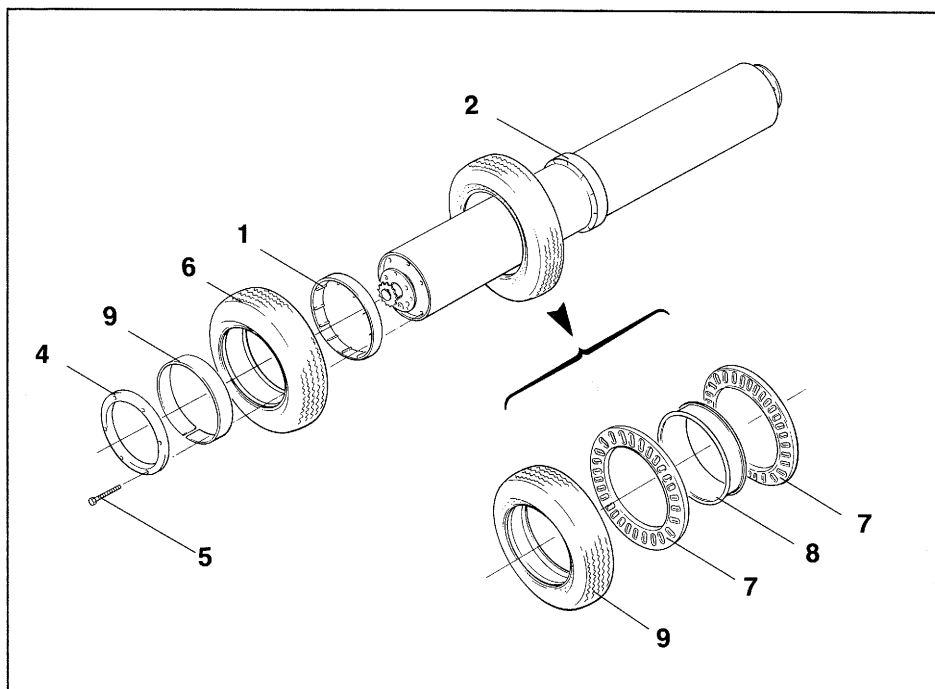
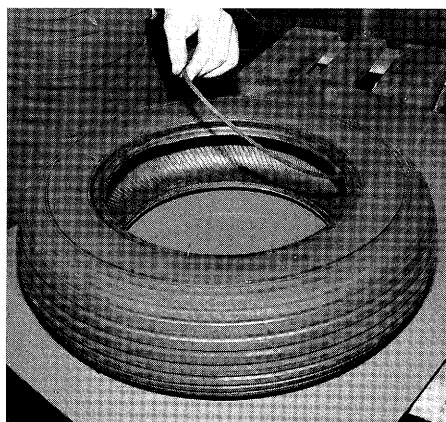

Fig.56
Fig.57
The spacing of the tyres on the tyre packer roller is maintained by plastic spacing rings (Fig. 56/1). In the centre of the roller a steel spacing ring (Fig. 56/2) is firmly welded to the roller. For this reason not all tyres may be pushed to one side of the roller drum for removal.
-  Unbolt the roller end-plate (Fig. 56/4) which is closest to the defective tyre.
You now can replace the defective tyre with the two bracing rings (Fig. 56/7) and the tyre inner ring (Fig. 56/8) by a new completely mounted tyre. Or you can re-use the two bracing rings and the inner ring and order only one unmounted tyre (Fig. 56/9). From this tyre already a 3 to 5 mm wide inner ring (Fig. 57) has been cut off by the factory so that the tyre can be slid on to the packer drum more easily.
The factory supplies partly worn tyres from the trade (see table) which, among other things, due to the cut off inner ring (Fig. 57) are not permissible for use on vehicles for public roads!
-  The two bracing rings (Fig. 56/7) and the inner rings (Fig. 56/8) should be removed from the defective tyre simply by cutting it apart.
-  For tyres purchased from a tyre dealer it would be necessary to cut off a 3 to 5 m wide inner ring (see Fig. 57) to enable an easier sliding of the tyre onto the roller drum.
-  Before fitting the bracing rings (Fig. 56/7) should be warmed up in a bucket filled with water of a temperature of between 35° C and 45° C. Heated bracing rings can then easier be bent and thus better be inserted into the tyres.
-  Pre-assembled tyres (Fig. 56/6) and distance rings (Fig. 56/1) are slid onto the roller drum.
-  Before fitting the last tyre the mounting ring (Fig. 56/9) should be slid onto the roller drum to facilitate the mounting of the last tyre. For this the mounting ring should be in line with the outer edge of the last tyre.
-  Set the roller end plate (Fig. 56/4) onto the roller drum and insert the bolts (Fig. 56/5) by hand into the threaded holes. To avoid the roller end plate edging, the bolts should not be fully tightened individually but consecutively one after another by each one turn until fully tightened.